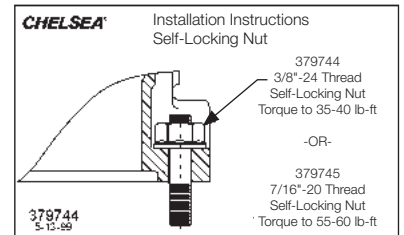

Figure 57
**NOTE:** Self-locking nuts **DO NOT** require lock washers (Fig. 57).